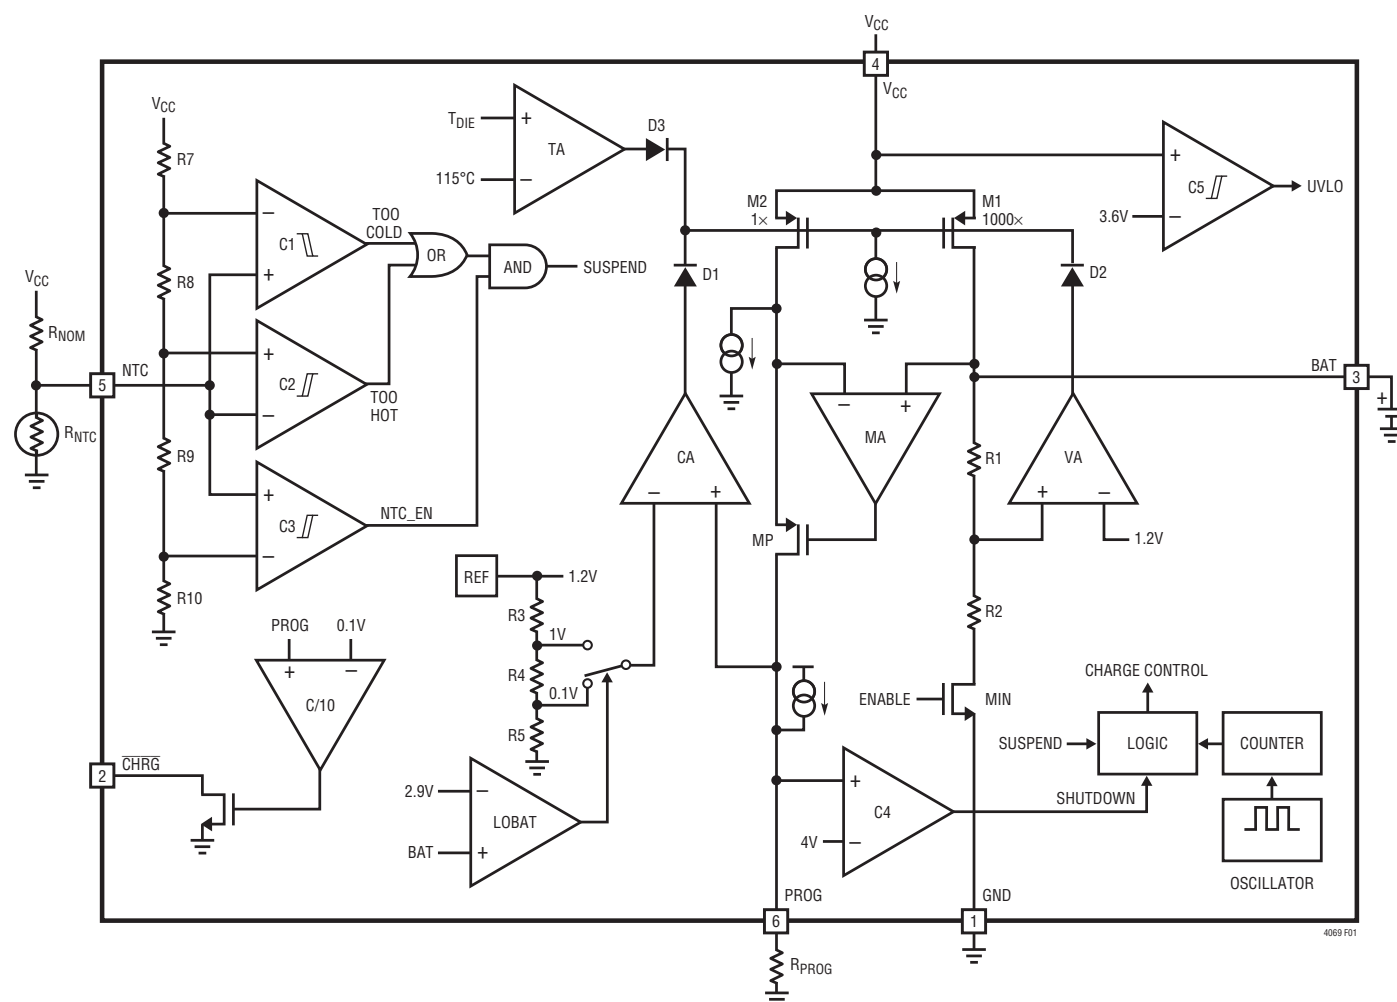

Figure 1. LTC4069 Block Diagram
The LTC4069 uses a unique architecture to charge a battery in a constant-current, constant-voltage and constant-temperature fashion. Figure 1 shows a Simplified Block Diagram of the LTC4069. Three of the amplifier feedback loops shown control the constant-current (CA), constant-voltage (VA), and constant-temperature (TA) modes. A fourth amplifier feedback loop (MA) is used to increase the output impedance of the current source pair, M1 and M2 (note that M1 is the internal P-channel power MOSFET). It ensures that the drain current of M1 is exactly 1000 times greater than the drain current of M2.